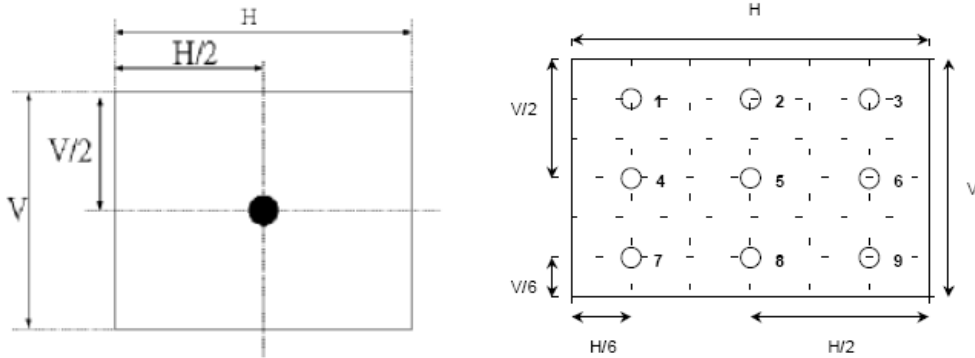

Fig.4-2 Optical measurement point
2. Surface luminance is luminance value at point 1 across the LCD surface 50cm from the surface with all pixels displaying white. From more information see Fig. 4-2. When  $V_{DDB} = 24V$ ,  $I_{DDb} = \text{TBD}$ .  $L_{WH} = L_{on1}$ . Where  $L_{on1}$  is the luminance with all pixels displaying white at center 1 location.